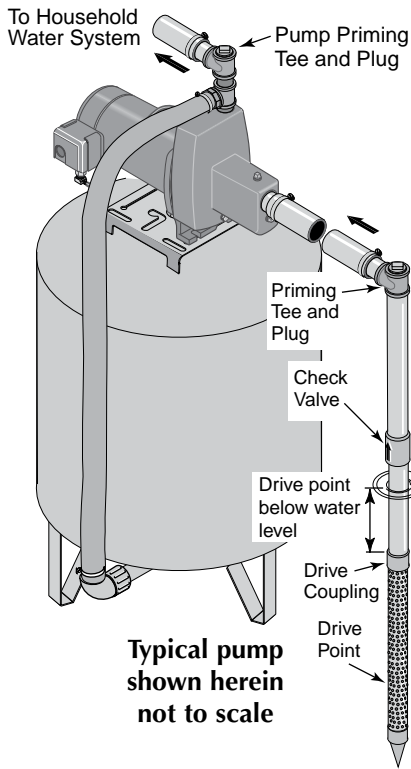

Figure 1: Driven Point Installation
Well Point (Driven Point) Installation (Figure 1)
3. Use the fewest possible fittings (especially elbows) when connecting the pipe from the well point to the pump suction port. The suction pipe should be at least as large as the suction port on the pump (include a check valve if your pump is not equipped with one – see Figure 1). Support the pipe so that there are no dips or sags in the pipe, so it doesn’t strain the pump body, and so that it slopes slightly upward from the well to the pump (high spots can cause air pockets which can air lock the pump). Seal the suction pipe joints with Teflon™ tape or a Teflon™ based pipe joint compound. Joints must be air- and water-tight. If the suction pipe can suck air, the pump cannot pull water from the well. If one well point does not supply enough water, consider connecting two or three well points to one suction pipe.